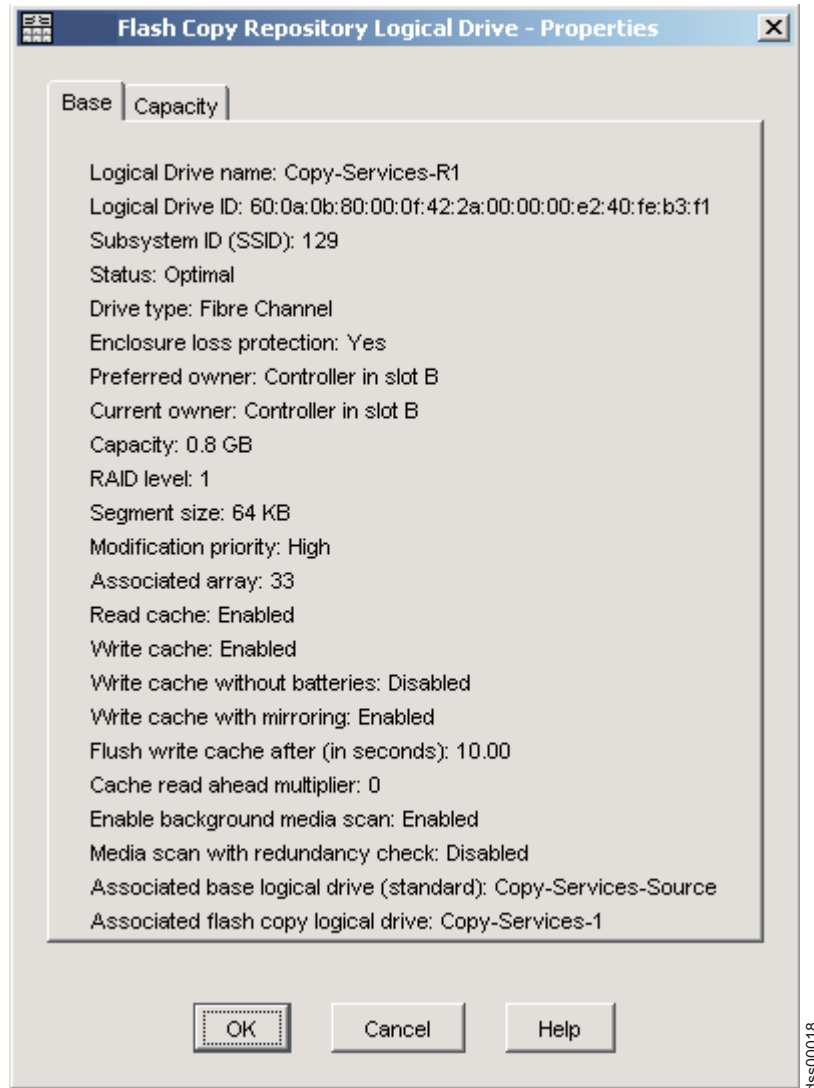

Figure 15. FlashCopy repository logical drive properties
2. Click **Logical Drive** → **Properties**. The FlashCopy Repository Logical Drive - Properties window opens. See Figure 15.